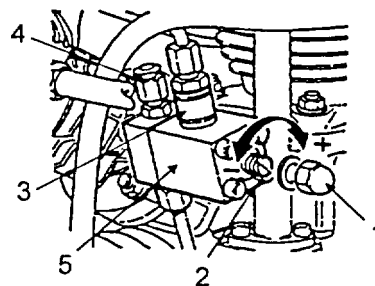

FIGURE 3-6. COMPRESSOR OIL PRESSURE REGULATOR
- c. To fill with oil, pour 1.5 quarts of oil slowly into the oil filler neck. If necessary, add oil. Wait five (5) minutes after filling, check oil level per paragraph 3-5.2, reinstall the filler cap, then start the compressor unit.
- d. Check the operation of the oil pump It is working properly if no bubbles are visible in the oil pressure regulating valve sight glass (See figure 3-6, item 3)
- a. Remove cap nut (Figure 3-6, Item 1) to expose setscrew (2).
- b. Remove the tube plug (4)
- c. Connect a calibrated oil pressure gauge, 0-1500 psi, to the oil pressure regulator test connector (4) to read oil pressure
- e. Using a screwdriver, turn setscrew (2) in oil pressure regulator (5) to adjust oil pressure
- h. If bubbles are observed in the regulator site glass (3) on the oil pressure regulator, it is necessary to vent the pump, refer to paragraph 3-5.4.